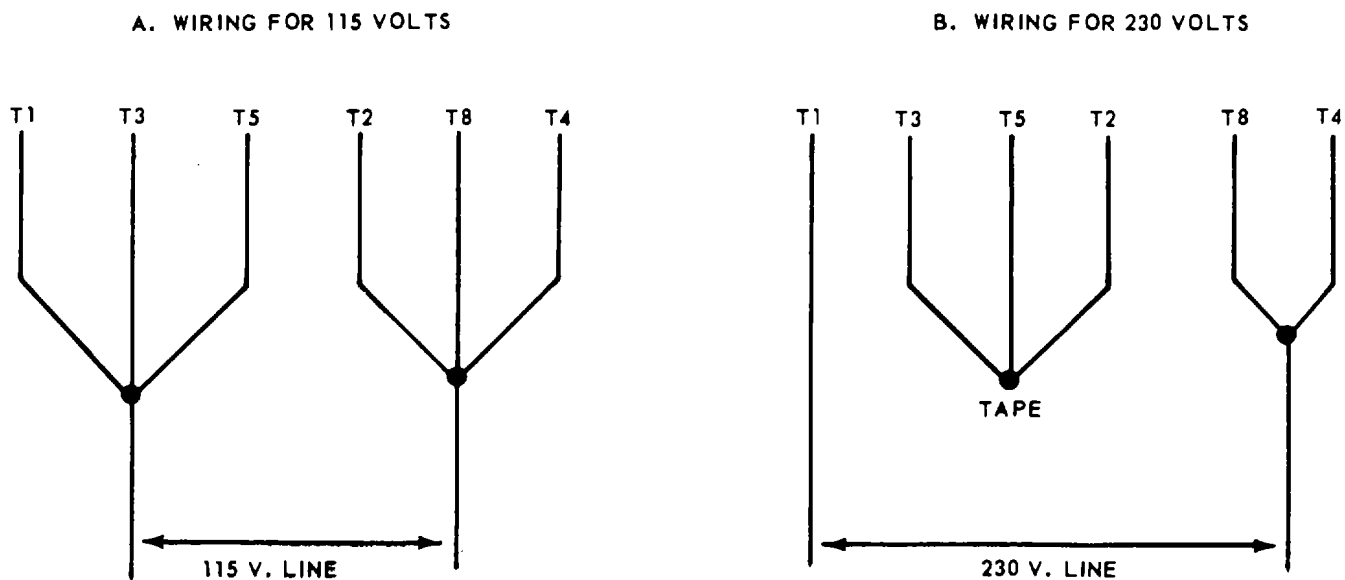

Figure 7.1. Electric motor wiring (Serial Nos. 14433 though 14449).
- b. Wiring should be as shown in figure 7.1 (A) (Counterclockwise rotation facing motor shaft).
- b. Wiring should be as shown in figure 7.1 (B).
- Figure 7.1 is added as follows: